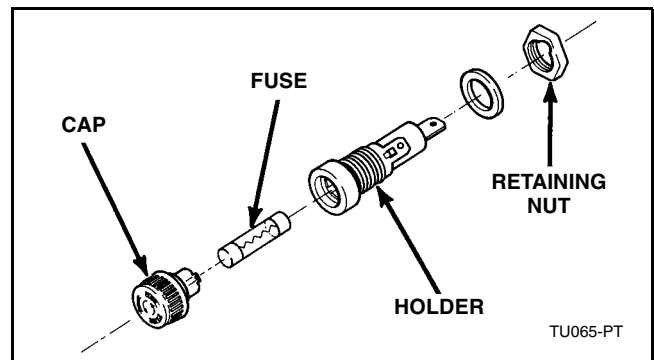

Figure 5
- Turn fuse cap counterclockwise to remove fuse. Refer to *Figure 5*.
- Remove fuse from fuse cap. Refer to *Figure 5*.
- Remove plastic retaining nut and remove assembly. Refer to *Figure 5*.